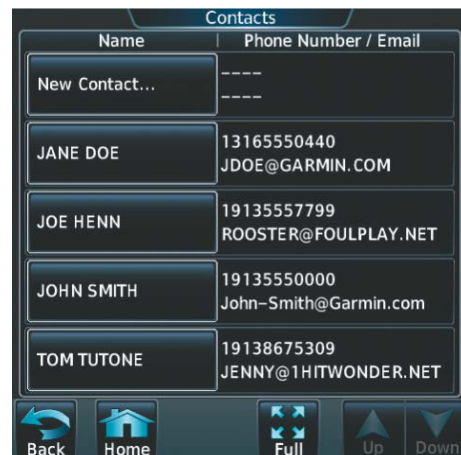

Figure 8-44 Contact List
- The Contacts Screen is displayed as shown in Figure 8-44.
- Touch **New Contact...** at the top of the list (Figure 8-44).